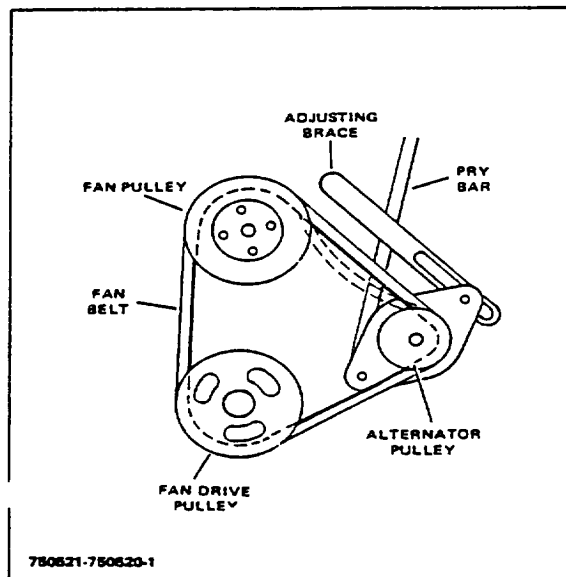

Figure 3-2. Fan Belt Tension
Be sure to check the mounting bolts for tightness and the belt for alignment, corrosion, tension and wear. Belt tension should be adjusted to allow approximately 3/8" inward deflection of the belt between the alternator pulley and the fan pulley with a force of about 10 pounds. (See Figure 3-2).
2. Hold alternator close enough to engine to engage fan belt on alternator pulley, then, using pry-bar as shown in Figure 3-2, tighten pivot bolt and adjusting brace capscrew for 3/8" belt deflection with about 10 pounds of applied force.